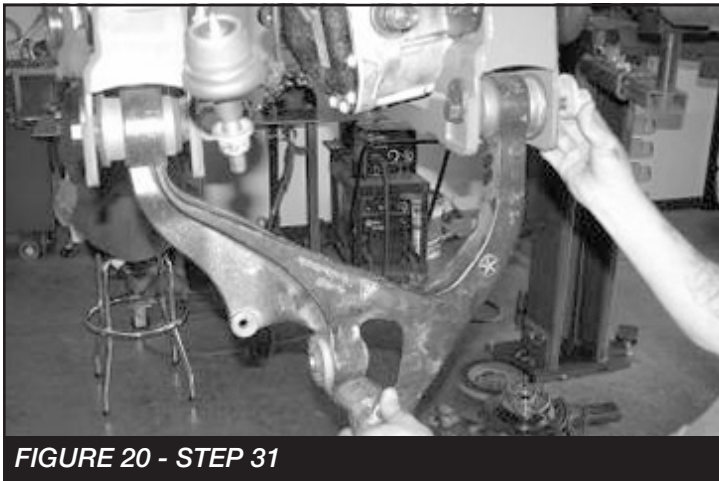

FIGURE 20 - STEP 31
30. **DIESEL MODELS ONLY:** Once the differential is in and torqued, proceed with re-installing the steering rack. Use steps 17,18 in reverse order. Torque the steering shaft bolt to 36 ft-lbs. and the (2) crossmember bolts to 235 ft-lbs.
31. Working from the driver side of the truck, install the factory lower control arm to the Fabtech crossmembers using the original alignment cam bolts. Leave loose at this time. **SEE FIGURE 20**